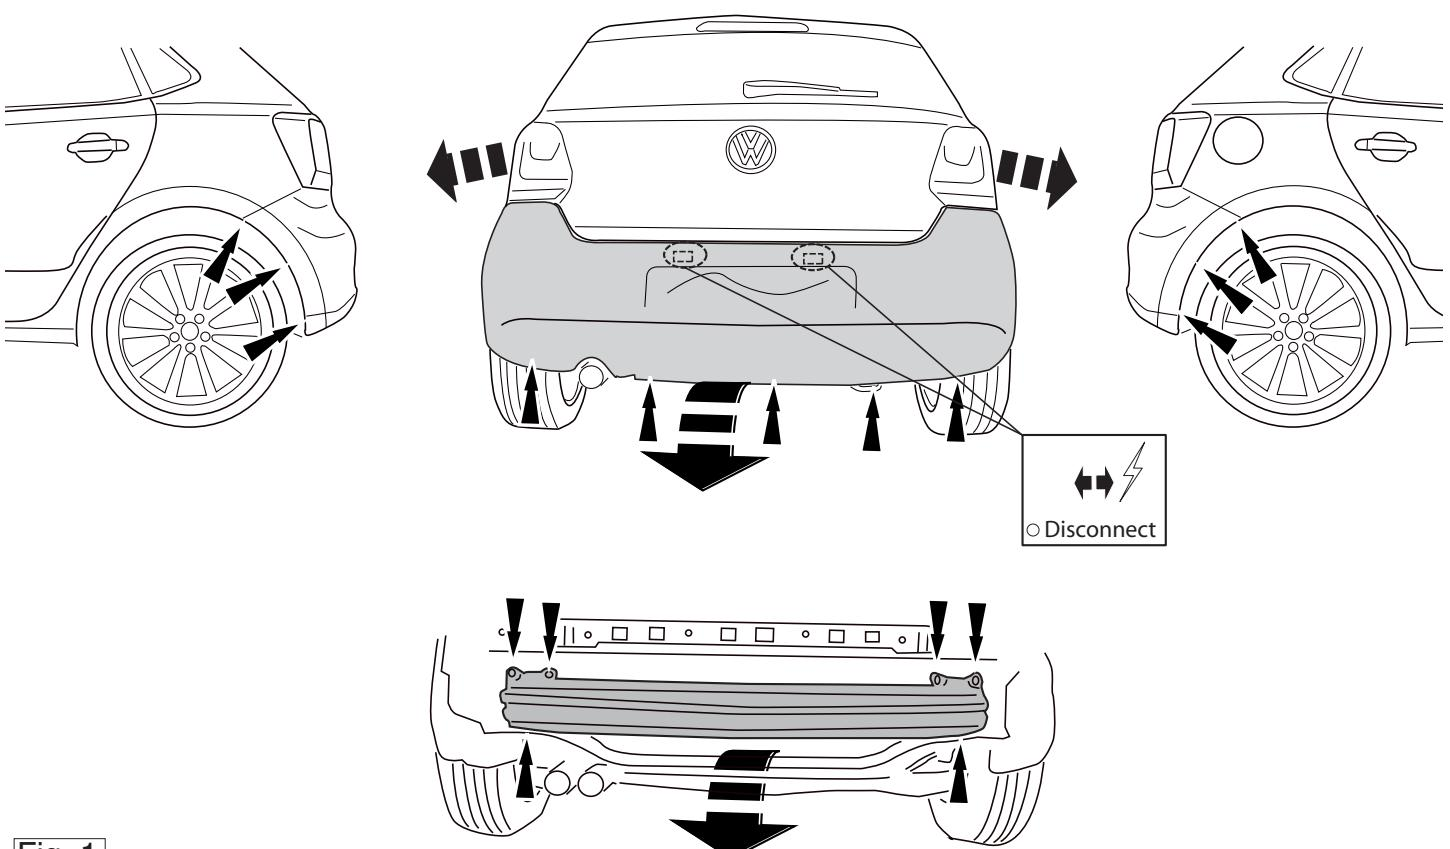

Fig. 1
NOTE: Should this installation process entail the cutting of the bumper - contact manufacturer. The dealer should be consulted for possible necessary adjustments(s) "of the vehicle". Remove the rear-light units. Remove the head screws around each wheel arch, along lower edge of rear panel, beneath each light cluster (light cluster must be removed). And the steel bumper beam from the vehicle. The buffer beam will no longer be needed. Replace the nuts. See figure 1. Place the two PE foam blocks as spacers in the chassis members. Place the template onto the outside of the bumper. Use the nuts and bolts to saw out the indicated section from the drawing. Tighten all nuts and bolts to the torque indicated in the drawing. Fit the ball hitch, including socket plate. Fit the bumper.
2. Die Stoßstange einschließlich des stählernen Stoßbalkens vom Fahrzeug abmontieren. Der Stoßbalken wird nicht mehr benötigt. Die Muttern wieder anbringen. Siehe Abbildung 1,
2. Déposer le pare-chocs du véhicule y compris la traverse en acier ; la traverse ne sera plus utilisée. Remettre les boulons de fixations en place. Voir la figure 1.